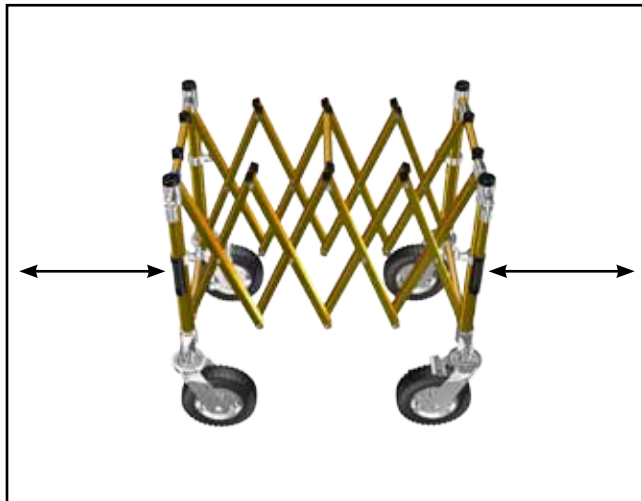

Figure 10 - Adjusting the Truck Length
2. Grasp both ends of the truck and move them apart or together until the truck is near the desired length (Figure 10).